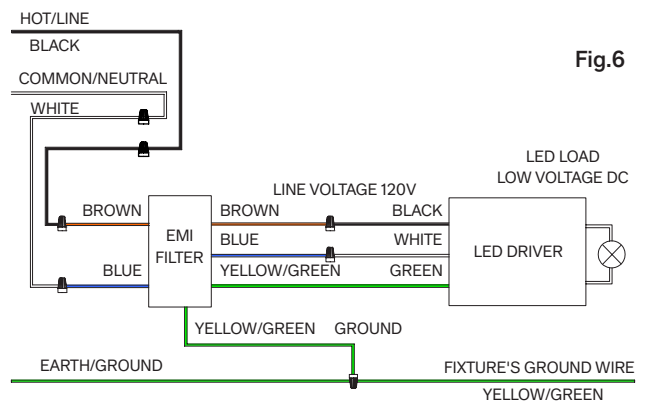

Fig.6
16. FOR NON-DIMMING, follow the WIRING DIAGRAM (see Fig. 6) to Connect the NEUTRAL WIRE from your fixture with the neutral wire (usually white) from your outlet box using a Wire Nut (U). Connect the HOT WIRE from your fixture with the hot wire (usually black) from your outlet box using a Wire Nut (U). DO NOT REVERSE THE HOT AND NEUTRAL CONNECTIONS OR SAFETY WILL BE COMPROMISED.
18. Slide the Canopy (F) toward the ceiling to cover the Mounting Plate (C) then thread back the Ring (H) onto the Hanging Mechanism (I) to secure the Canopy (F) in place.